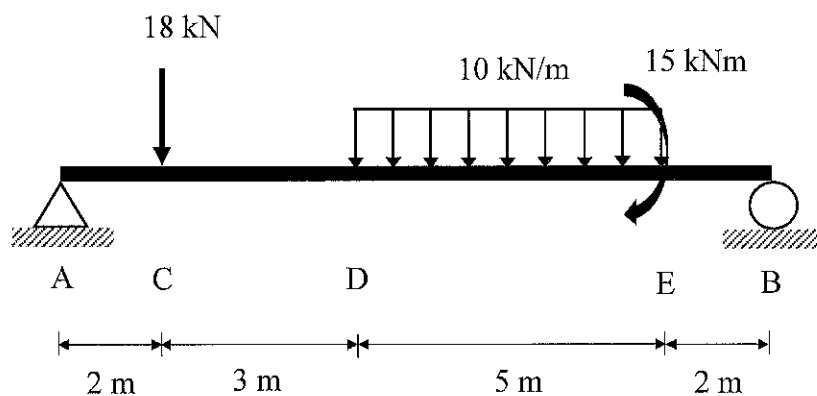

Figure A2(c) / Rajah A2(c)
- (a) Figure A2(a) shows a T-section beam.
Rajah A2(a) menunjukkan rasuk berkeratan T.Figure A2(a) / *Rajah A2(a)*
From Figure A2(a);
- (c) Figure A2(c) shows a simply supported beam is subjected to point load, uniformly distributed load and moment. Given $R_{Ay} = 32.5 \text{ kN}$ and $R_{By} = 35.5 \text{ kN}$. By using a Macaulay Method, construct the equations for bending moment, slope and deflection.